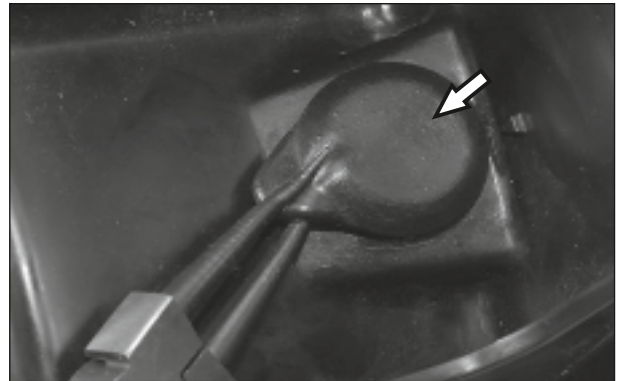

Fig. 2.26
- Remove the plug TDC from the Cowl complete bottom air cooling. (Fig. 2.26)